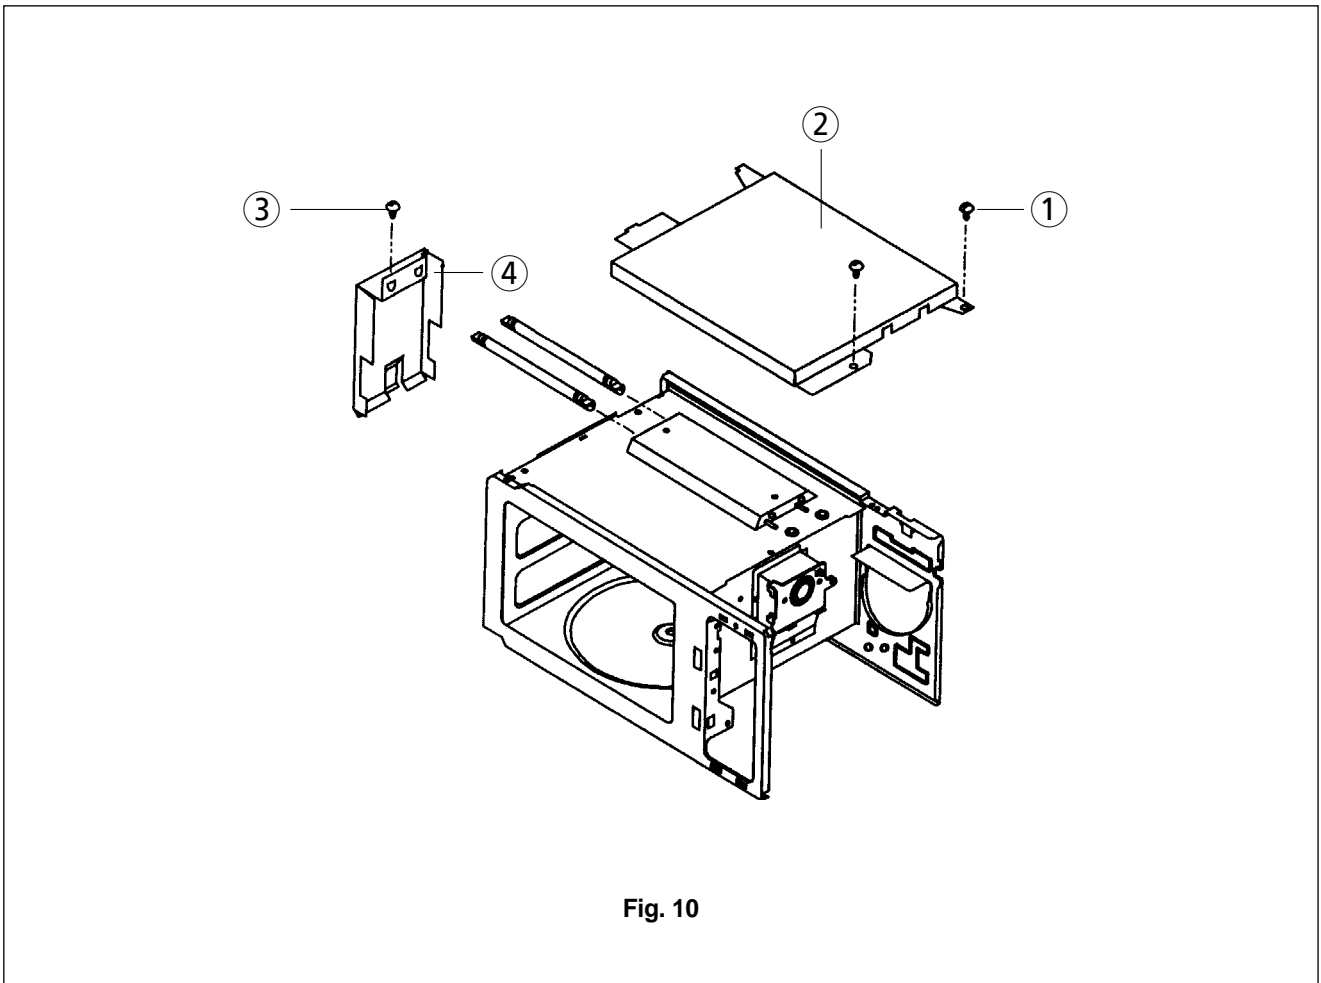

Fig. 10
10. To remove grill heater assembly. (Refer to Fig. 10)